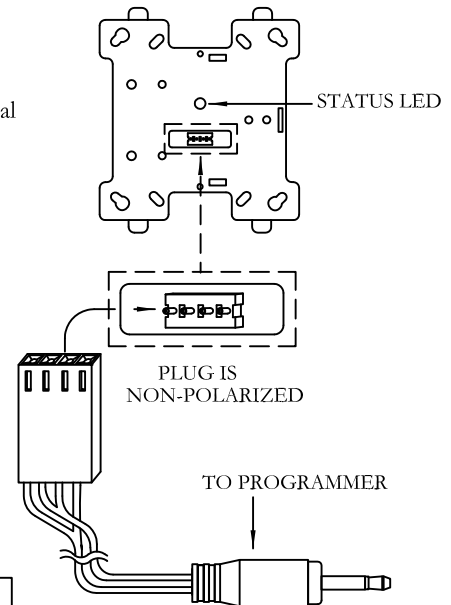

FIGURE 1.
- 3) The address must be set on the module before cover plate is attached (see Figure 1).